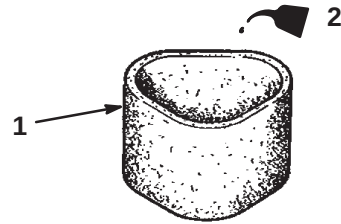

Figure 27
- C. Put oil on the element (Fig. 27). Squeeze the element to distribute the oil.